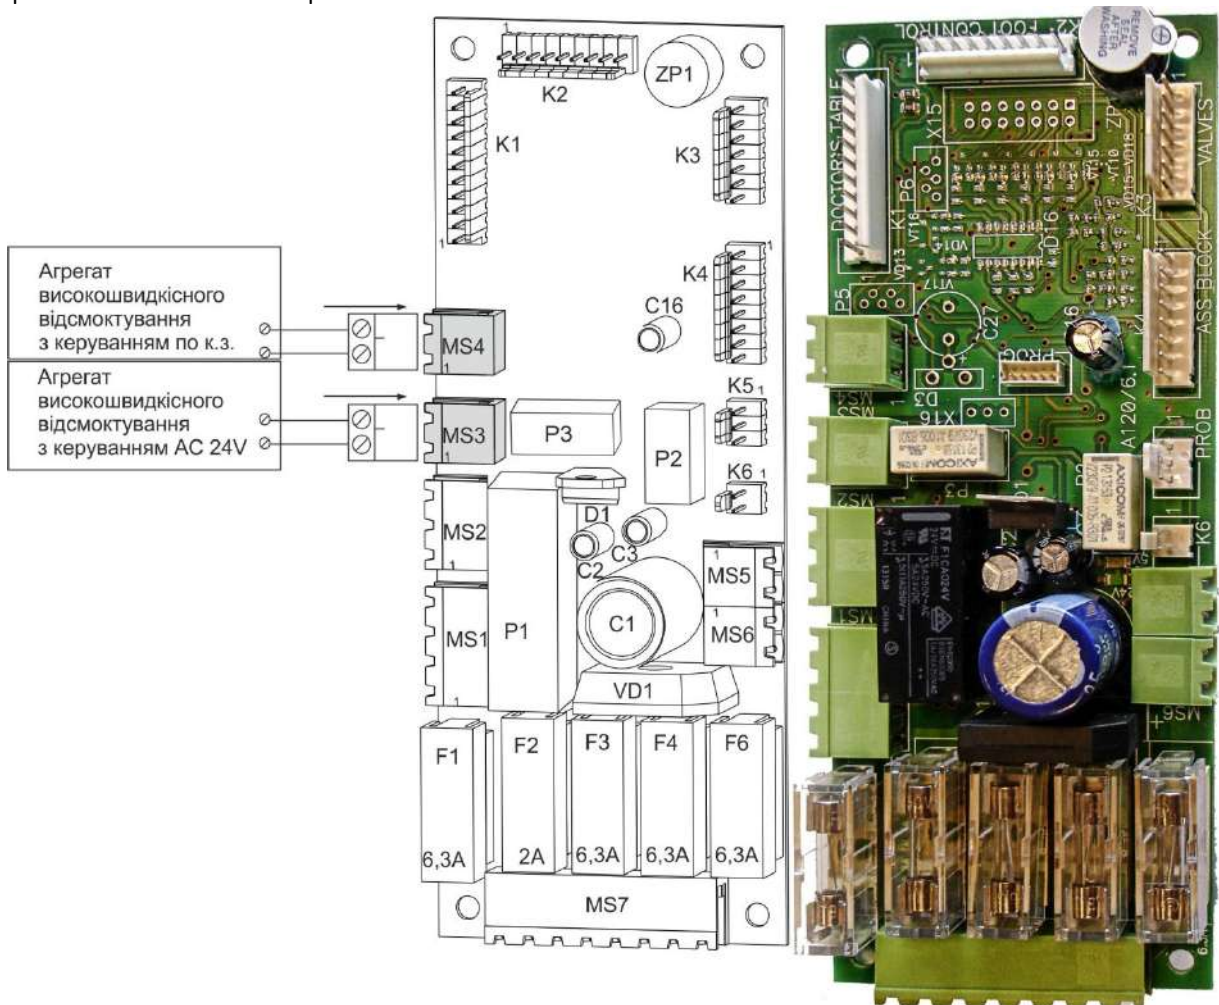

Figure 3.1.1
- connect the control wires of the suction aggregate to connector MS3 or MS4 on the water unit controller board of the unit according to Figure 3.1.1.